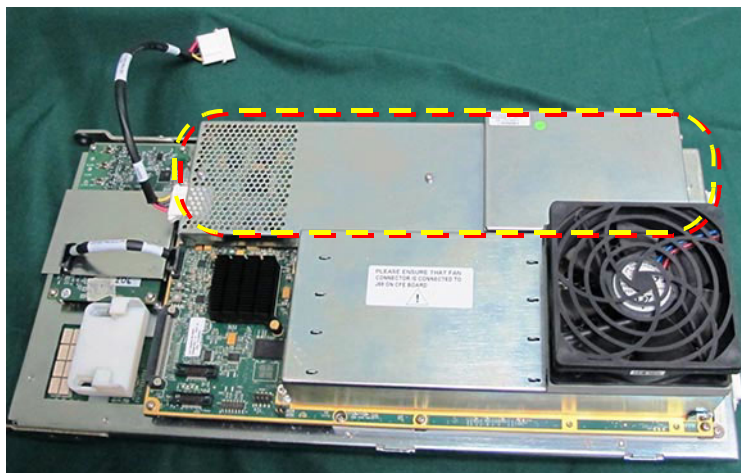

Figure 8-135 FEPS Located on the Front End Door Assembly
- 1) Return a new FEPS to its position on the Front End door assembly - see Figure 8-135 below.